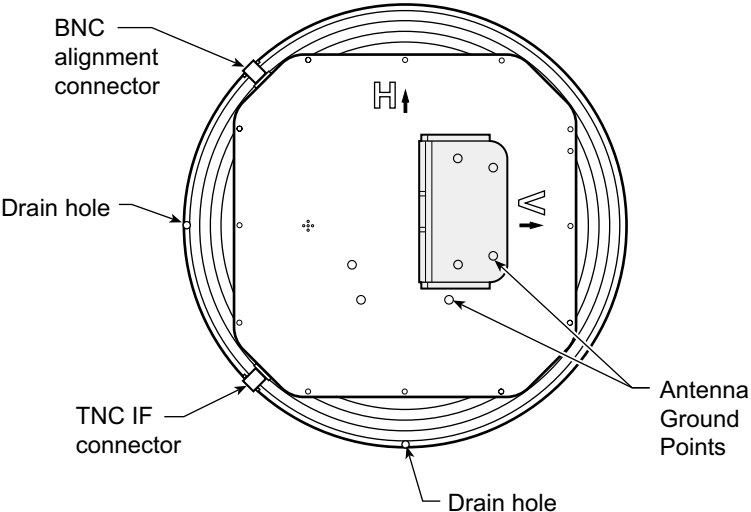

Figure 6-5. Mounting Horizontally Polarized ODU
- For a horizontally polarized antenna, mount the unit with its two cable connectors facing sideways, so that the TNC connector points downward and the “H” is up as shown in Figure 6-5.
- Line up the bolts in the antenna with the four holes in the mounting bracket as shown in Figure 6-5.